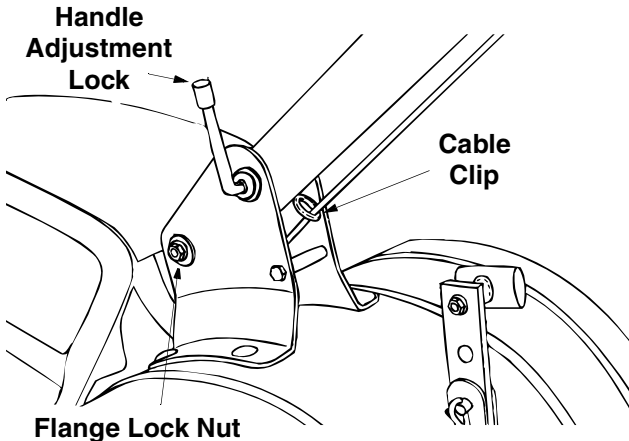
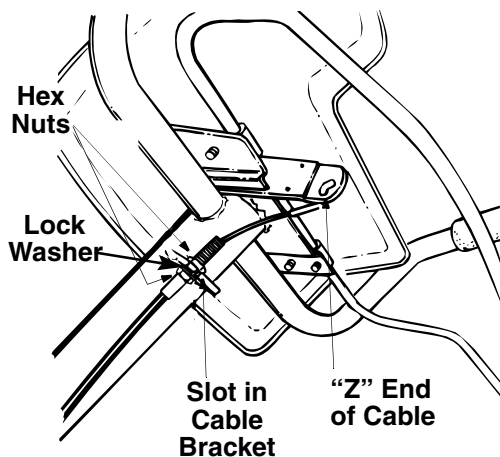

Figure 8
Figure 9 Viewed beneath handle panel.
- Route the clutch cable underneath the handle and through the cable clip. Be careful not to bend or kink the cable. Refer to Figure 8. Remove one hex nut from the threaded casing on the end of the cable. See Figure 9.
- Pull the cable upwards to obtain slack, and, from right to left, hook the "Z" end of the cable into the bracket on the clutch control (beneath the handle panel) as shown in Figure 9. Tighten the nut against the cable bracket.
**If the belt turns with the unit in neutral**, adjust by moving the hex nut below the cable bracket **down** a few turns. See Figure 9. Tighten the upper hex nut against the bracket.